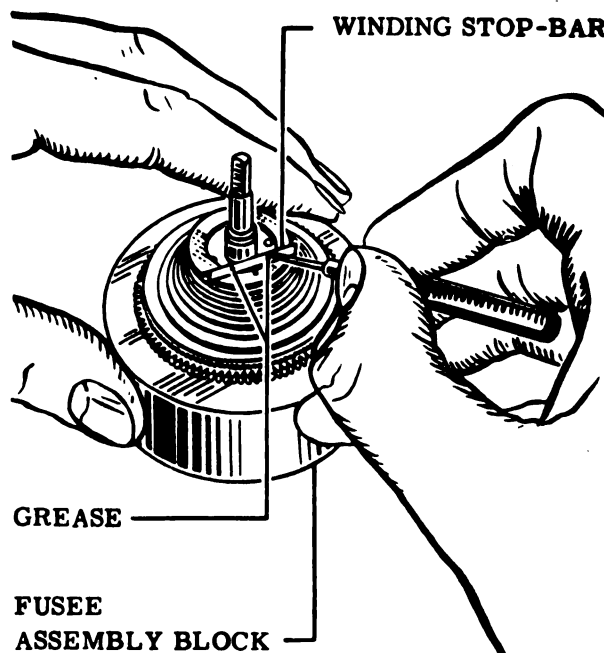

Figure 73
31. Install winding stop-bar spring and winding stop-bar. Grease top of stop-bar. See grease spots in Fig. 73.